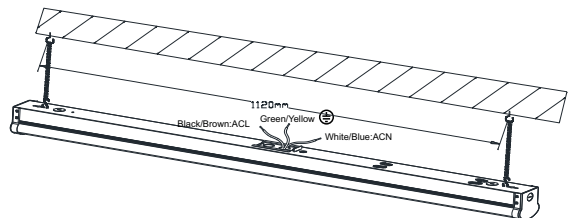

Figure 2
2. Hang the other end of the chain on the hook that fixed on ceiling. (Figure 2)